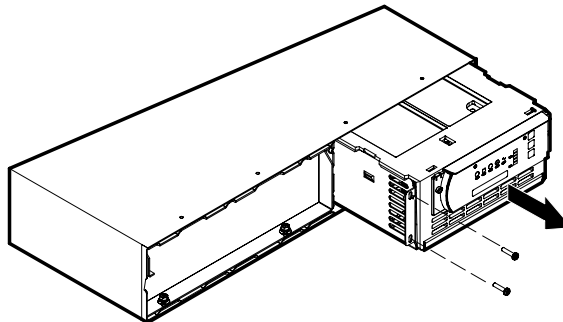

Figure 31. Removing the Electronics Module
3. Remove the two screws on the left of the electronics module. Remove the electronics module and retain the screws (see Figure 31).